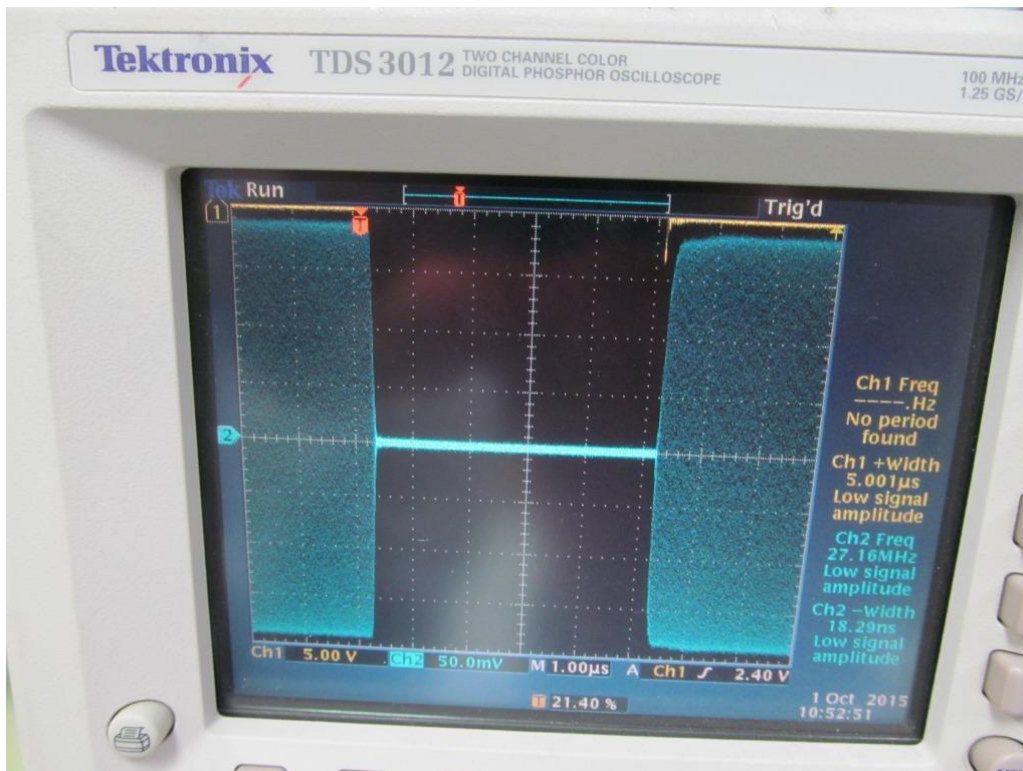

Figure 2 RF Output Waveform
6. Adjust the oscilloscope for full screen display of the RF output waveform. Move the trigger pulse up off of the display. See Figure 2.